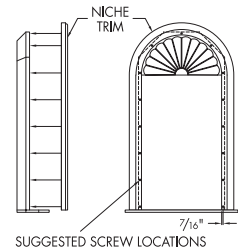

FIGURE 5
5. Secure the Niche trim to the tub using finishing nails at the locations suggested (SEE FIGURE 5). The finishing nails should be approximately 7/16" from the inside edge of the tub. Make sure that the trim does not move when driving the nails. Wipe off all excess adhesive.